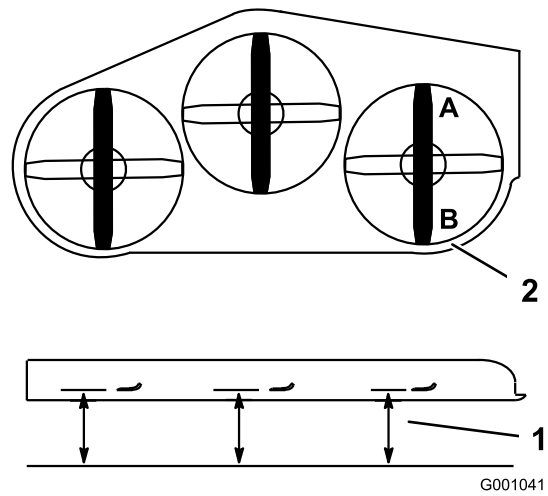

Figure 89
2. Position 1 blade front-to-rear. Measure at **A** and **B** locations from a level surface to the cutting edge of the blade tips (Figure 89).